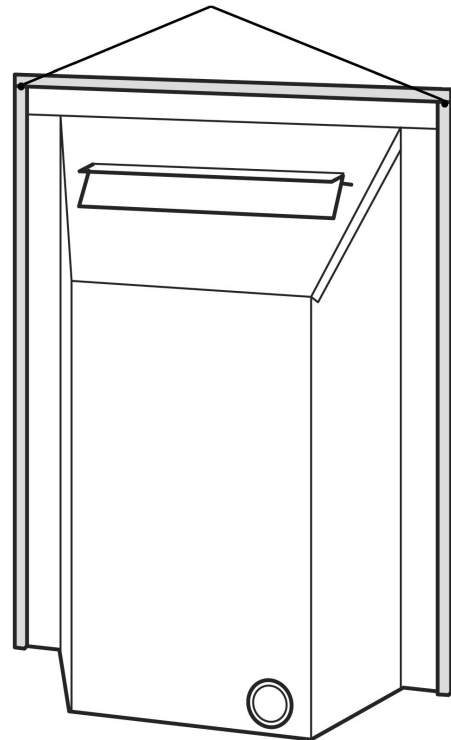

Figure 10. Fitting the foam seal
4. There is a length of self adhesive foam seal supplied with the fire. This will need to be fitted to the outer rear edges of the side and top flanges of the hotbox. Cut the foam seal to the required length. Be careful not to stretch the seal when measuring. Remove the protective backing from the foam seal and fit this to the rear of the top flange (See figure 10).